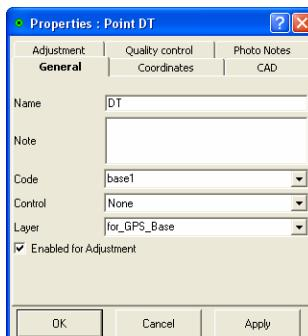

Figure 5-96. General Properties
2. View or edit *General* tab fields (Figure 5-96):